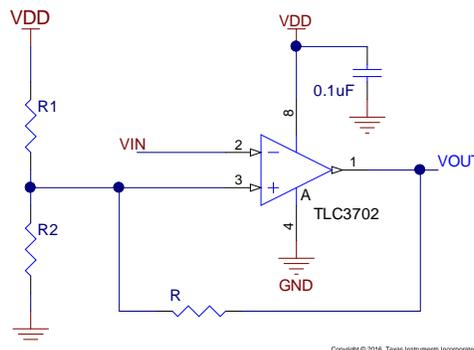
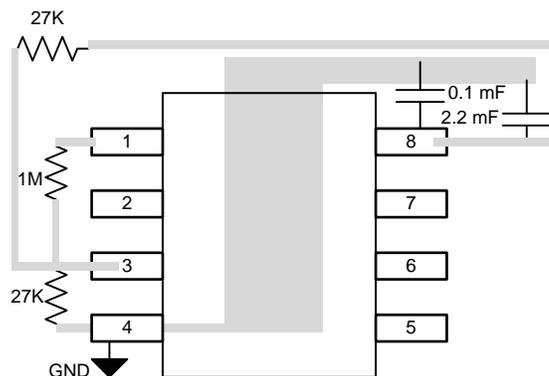

Figure 25. Application Adding Hysteresis to the TLC3702-Q1
Figure 29. Layout Example
Figure 25 shows a typical topology used to introduce additional hysteresis. The additional hysteresis depends on the external resistors value and the supply voltage VDD.
- Figure 29 shows an evaluation layout for the TLC3702-Q1 SOIC-8 package. C1 and C2 are power-supply bypass capacitors. Place the 0.1- μF capacitor closest to the comparator. Figure 25 shows a schematic of this circuit.